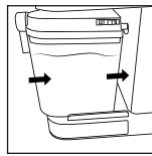

Fig. 3
- Install the cappuccinator lid (12) on the container (11), install the cappuccinator to the installation place until the lock clicking (fig. 3).